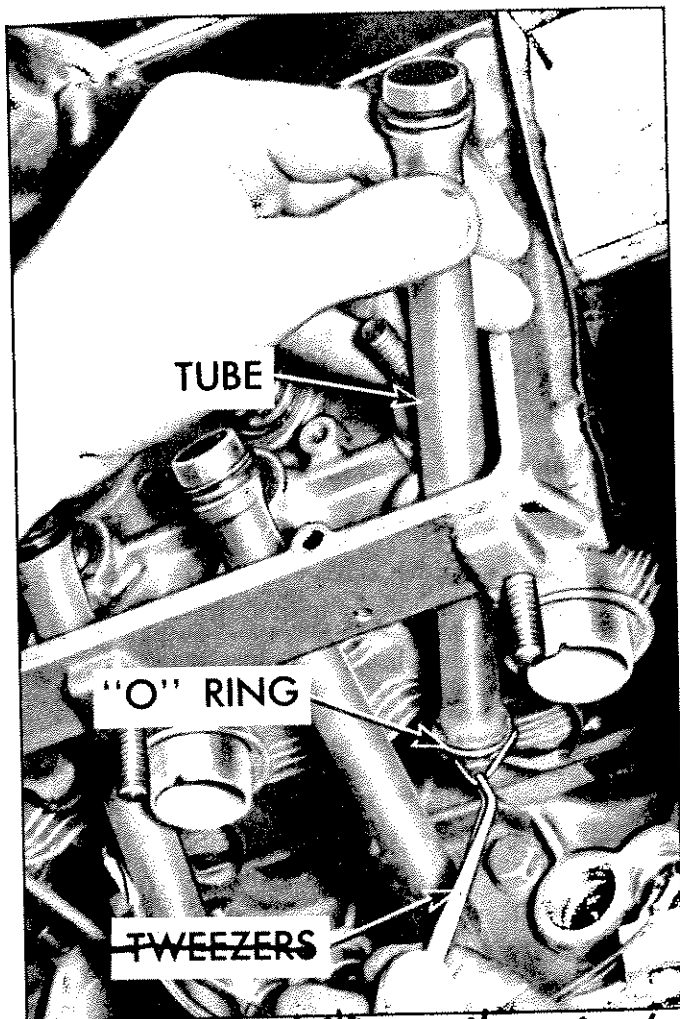

Fig. 33—Removing Push Rod Tubes
- Pull push rod tubes from crankcase bore and remove and discard inner "O" ring seal, (fig. 33), then remove push rod tube from cylinder head and remove and discard outer "O" ring seal.